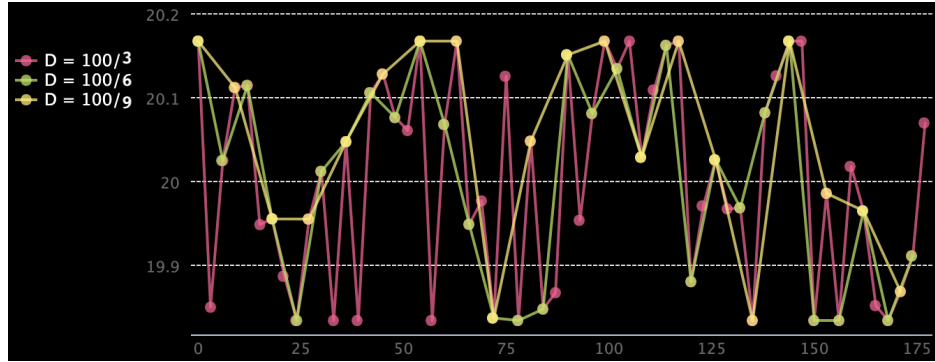

Figure 1: Output example
1. Plot the sampling curves corresponding to the three duty cycling schemes (include the plots in your submission). You can plot the values using your favourite tool. If you choose *display.py* for plotting, we recommend to use *pygal.XY()* instead of *pygal.line()*. Figure 1 shows an example of how would the plot look like.